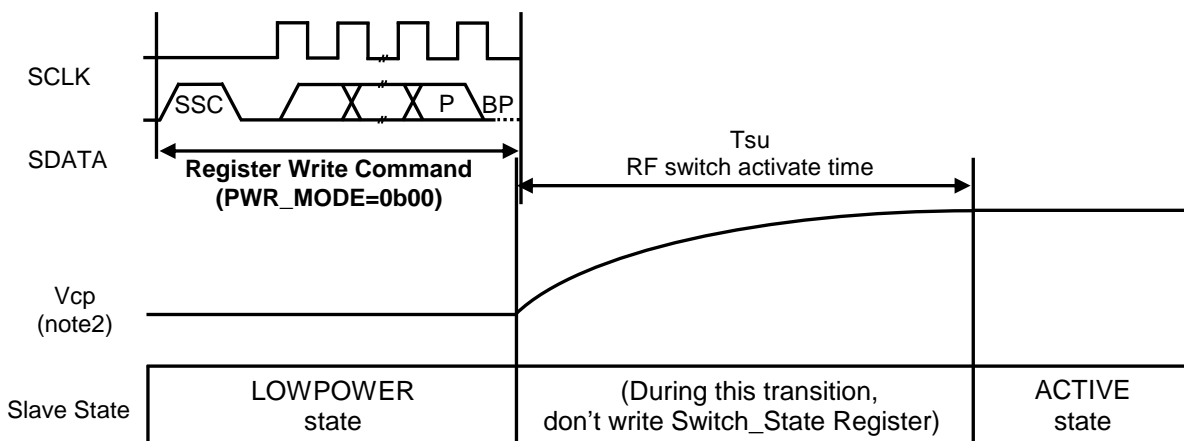

**Figure 4. Slave State Diagram**
- Figure 4, 5 and Table4 describes the RFASWR681CTF03 has four operating states.
The RFASWR681CTF03 has four operating states, which are ACTIVE, SHUTDOWN, STATUP and LOW POWER. The transitions between these four states are set writing the PWR\_MODE register or VIO as shown in Figure 4. The internal circuit operations in each operating state are shown in Table 4.